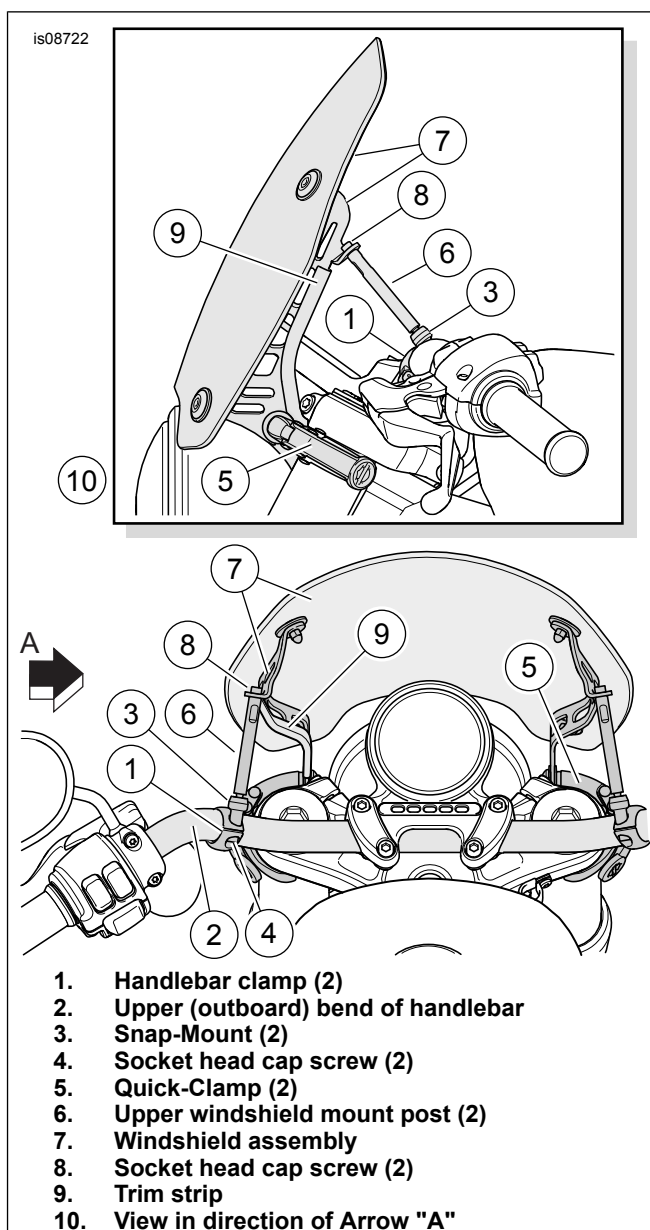

Figure 1. Windshield Clamps to Handlebar and Fork Tubes
5. Install the upper posts (15) to the windshield mount bracket tabs with screws (6), but do not fully tighten now.
6. Get the handlebar clamps (16), Snap-Mounts (14) and two screws (6) from the kit. See Figure 1. Align the handlebar clamps (1) near the upper (outboard) bends of the vehicle handlebar (2) as shown. Install the clamps to the handlebars with the Snap-Mounts (3) and screws (4), but do not tighten now.